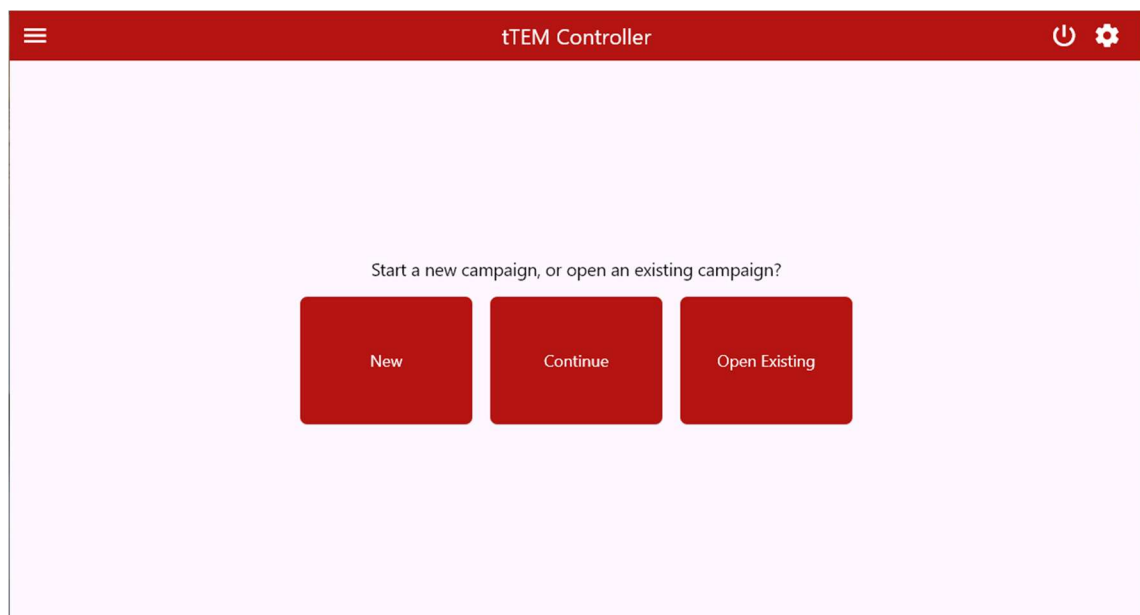

Figure 10. tTEM controller start screen where campaign is chosen. Create a new campaign, continue the last campaign or open an older, existing campaign.
- Open the tTEM Controller app. If it is properly connected it will display the controller interface as shown in Figure 10.